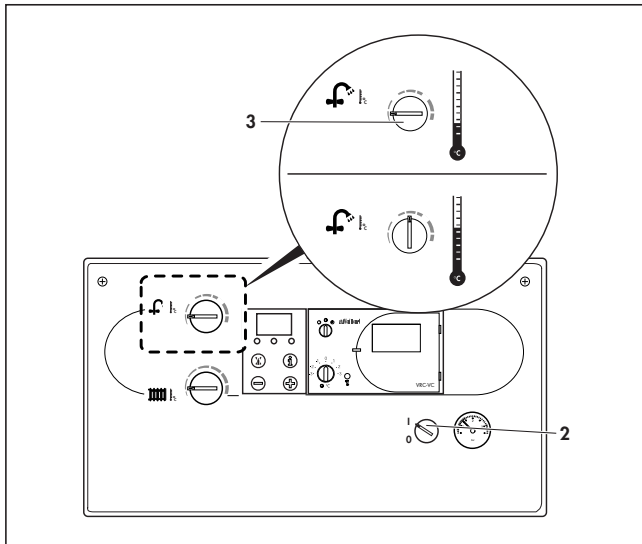

Fig. B.5: Domestic hot water supply
**!** If you live in a hard water area please do not set the control knob above the mid (12 o'clock) position to prevent excessiv scale formation (fig. B.5).